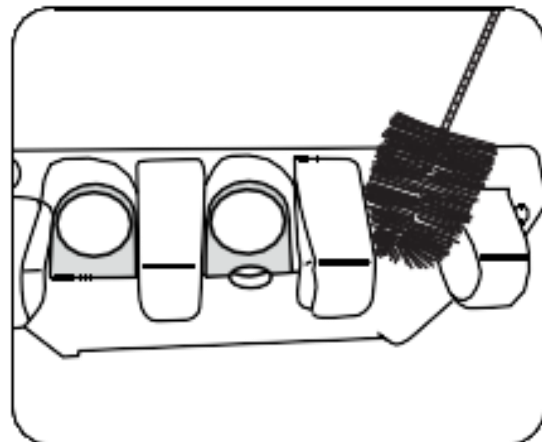

Figure 64
2. After removing the draw valves from the freezer door, clean the openings with a brush and dry with a soft towel. (Figure 64)